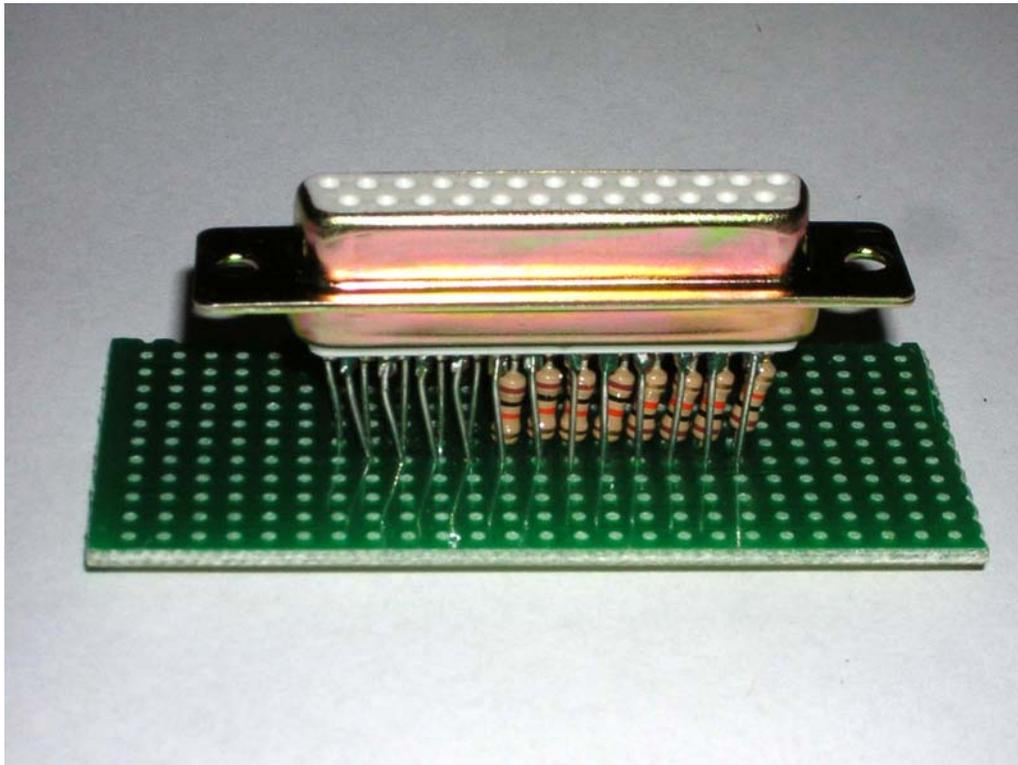

Figure 2. Mounting DB25 to the board.
6. Solder the twenty-four leads from the DB25 connector to the center two rows of the perforated board. Refer to Figure 2.